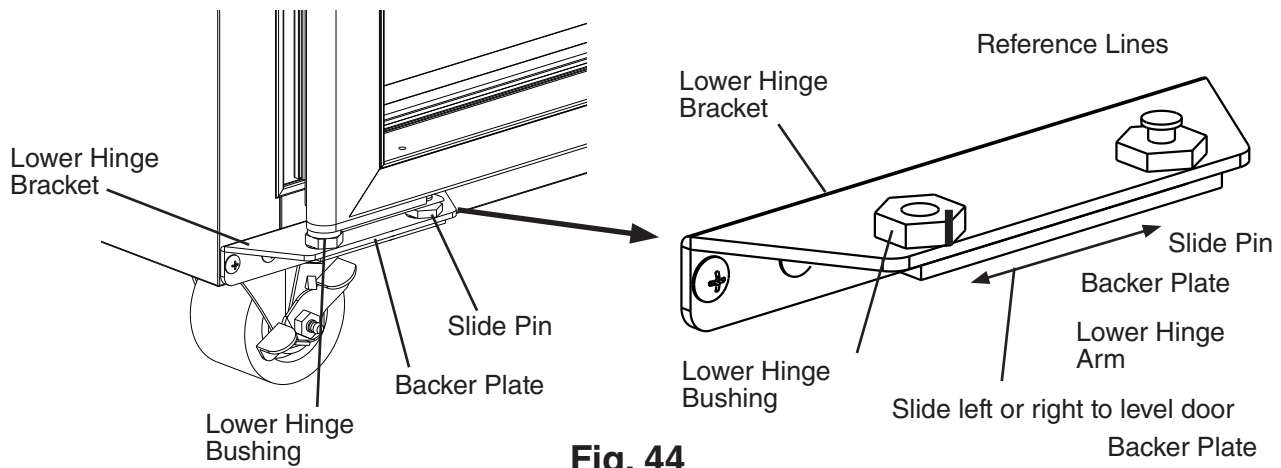

Fig. 44
- 20) Level the door by sliding the backer plate to the left or to the right, then tighten the slide pin and bottom hinge bushing with a wrench until it is tight. See Fig. 44. Next, mark a reference line on the bracket and bushing then tighten the fitting an additional 1/8 turn.